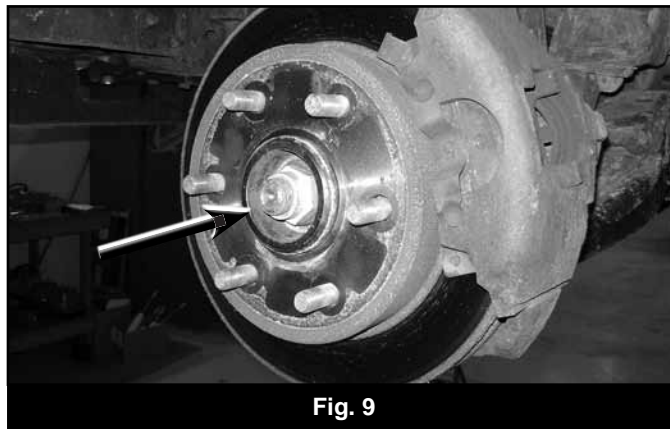

Fig. 9
23. Remove the axle shaft hub nut and save (Fig 9).